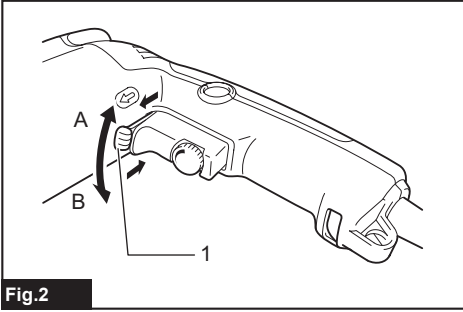

Fig.2
- **Fig.2:** 1. Reversing switch lever